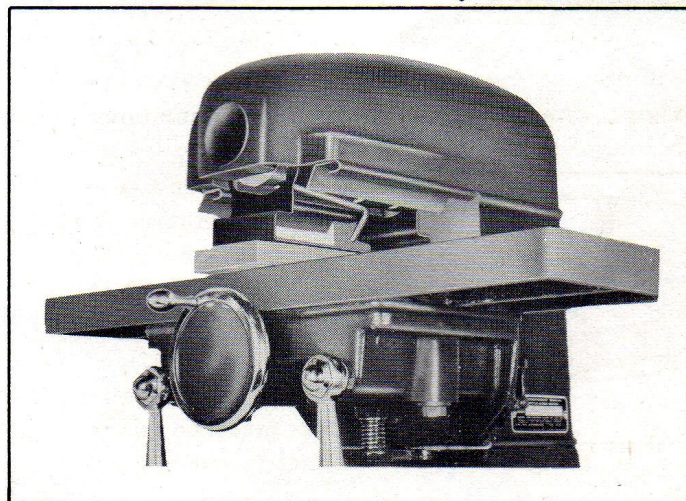

FIG. 5
3. Place a piece of wood $\frac{1}{2}$ inch thick 3 inches wide and 6 inches long on the table under the blade setting gage as shown in figure 5 to provide clearance for the Allen wrench when tightening the set screws.
4. Raise the table until the gage touches the cutter head front and rear at the bearing points indicated in figure 5.